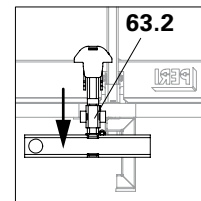

Fig. A7.13c
4. Push the sliding sleeve downwards. (Fig. A7.13c)